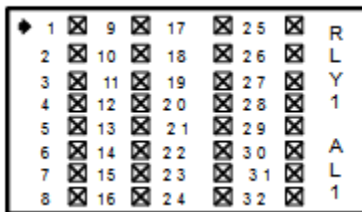

Figure 4-7 – Select Channels Menu
- **Select Channels** brings up a Check Box (Figure 4-7) screen for assigning which of the Active Channels are assigned to this relay. This allows creating Zones among the active channels.